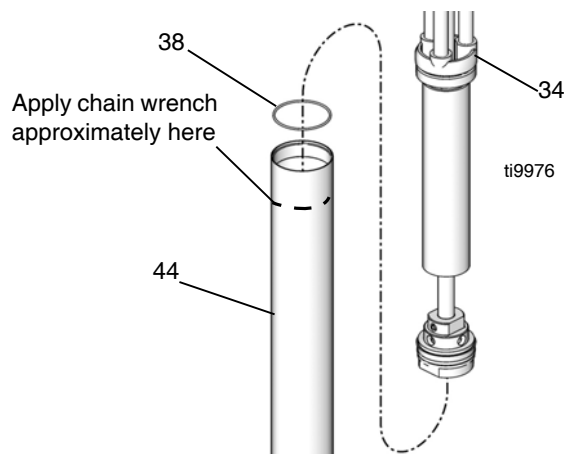

FIG. 18
6. Remove suction tube (44) from pump body (34). See FIG. 18.
7. Inspect o-ring (38) on pump body and suction tube for damage. See FIG. 18.